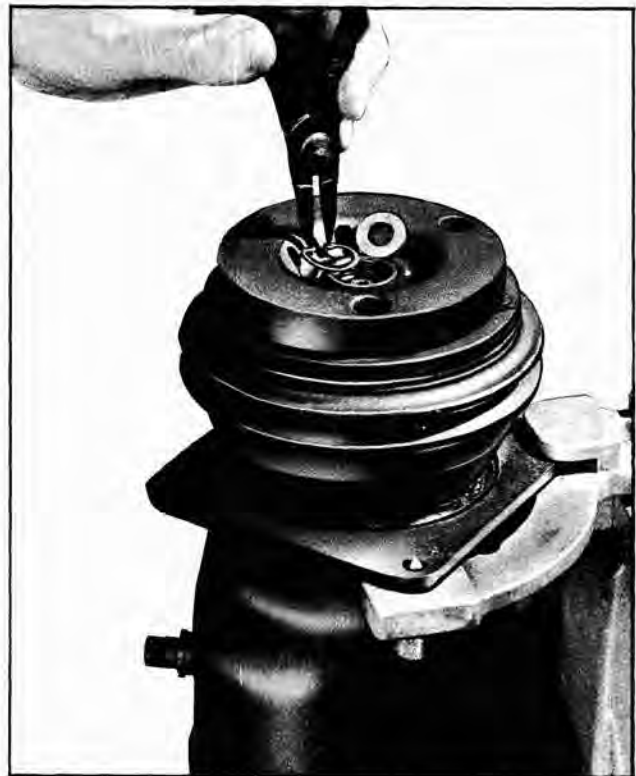

Fig. 5-51 Removing Hub Retainer and Spacer
3. Remove hub and drive plate assembly retainer ring, using J-5403 (No. 21 Truarc pliers). Remove spacer. (Fig. 5-51).